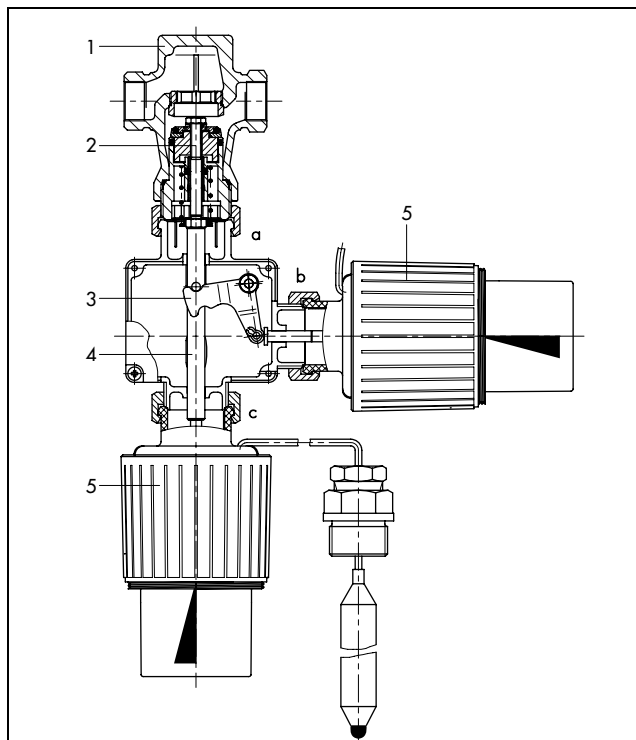
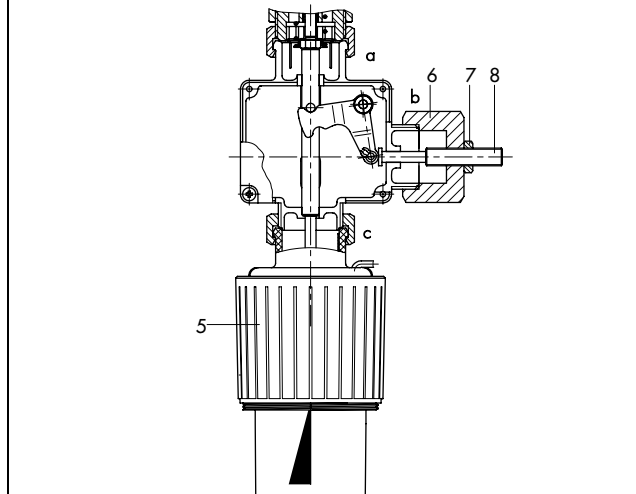

Fig. 3 · Type 2431 K Valve and Double Adapter Do3 K with two Type 2430 K Thermostats
Fig. 4 · Double Adapter Do3 K, Type 2430 K Thermostat and manual adjuster
Double Adapter Do3 K with manual adjuster (Fig. 4) · To manually close the valve or to limit its travel · Connection *c* for control thermostat, connection *b* for manual adjuster.
Principle of operation (Figs. 3, 4, and 5)
The **double adapter** mounts between the valve (1) and the control thermostat (5) and allows two control thermostats to be attached to connections *b* and *c* (Fig. 3). A manual adjuster can be attached to the double adapter at connection *b* to limit the valve travel (Fig. 4).